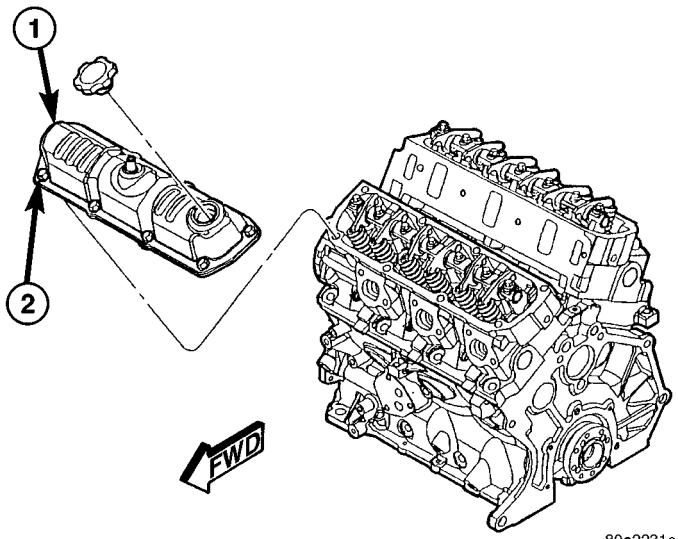

Fig. 26 Cylinder Head Cover
- (4) Install cylinder head cover and bolts (Fig. 26).
- (5) Tighten cylinder head cover bolts to 12 N·m (105 in. lbs.) (Fig. 26).
- (3) Install the cylinder head cover and bolts (Fig. 26).
- (4) Tighten cylinder head cover bolts to 12 N·m (105 in. lbs.) (Fig. 26).
- (5) Connect crankcase vent hose.
- (6) Connect spark plug wires to spark plugs.